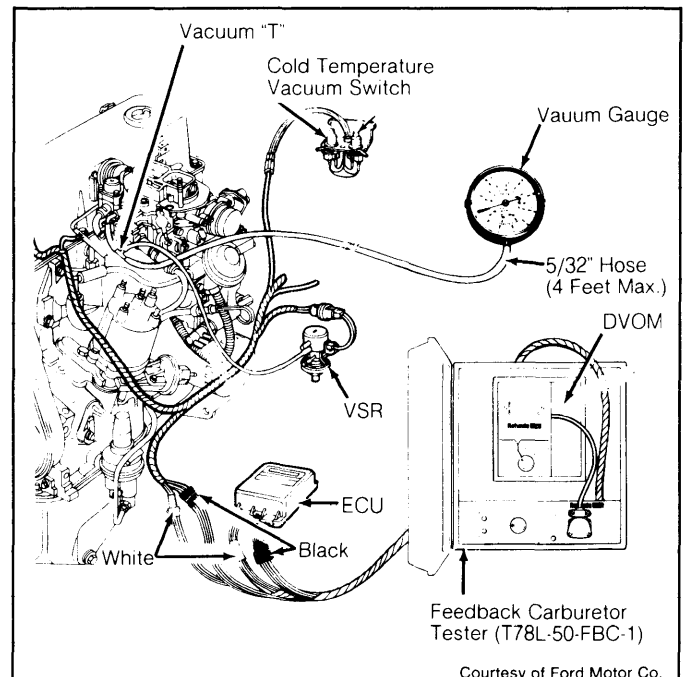

Fig. 8: Feedback Carburetor System Test Equipment Hook-Up
- 1) Turn ignition off. Disconnect harness from Electronic Control Unit (ECU). Connect test equipment to vehicle. See Fig. 8. The hose length between the vacuum gauge and the test setup is critical. Hose length must be 3' minimum, 4' maximum, and 5/32" inside diameter.